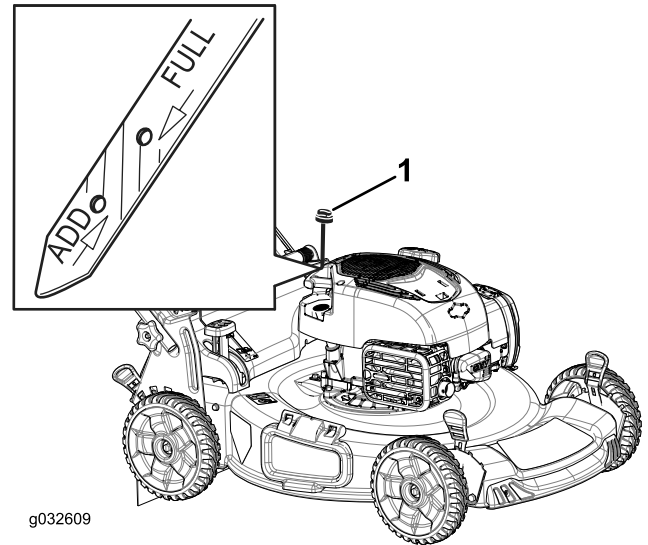

Figure 16
2. Remove the dipstick (Figure 16).
5. Read the oil level on the dipstick (Figure 16).
- If the oil level is below the Add mark on the dipstick, slowly pour a small amount of oil into the oil-fill tube, wait 3 minutes, and repeat steps 3 through 5 until the oil level is at the Full mark on the dipstick (Figure 16).